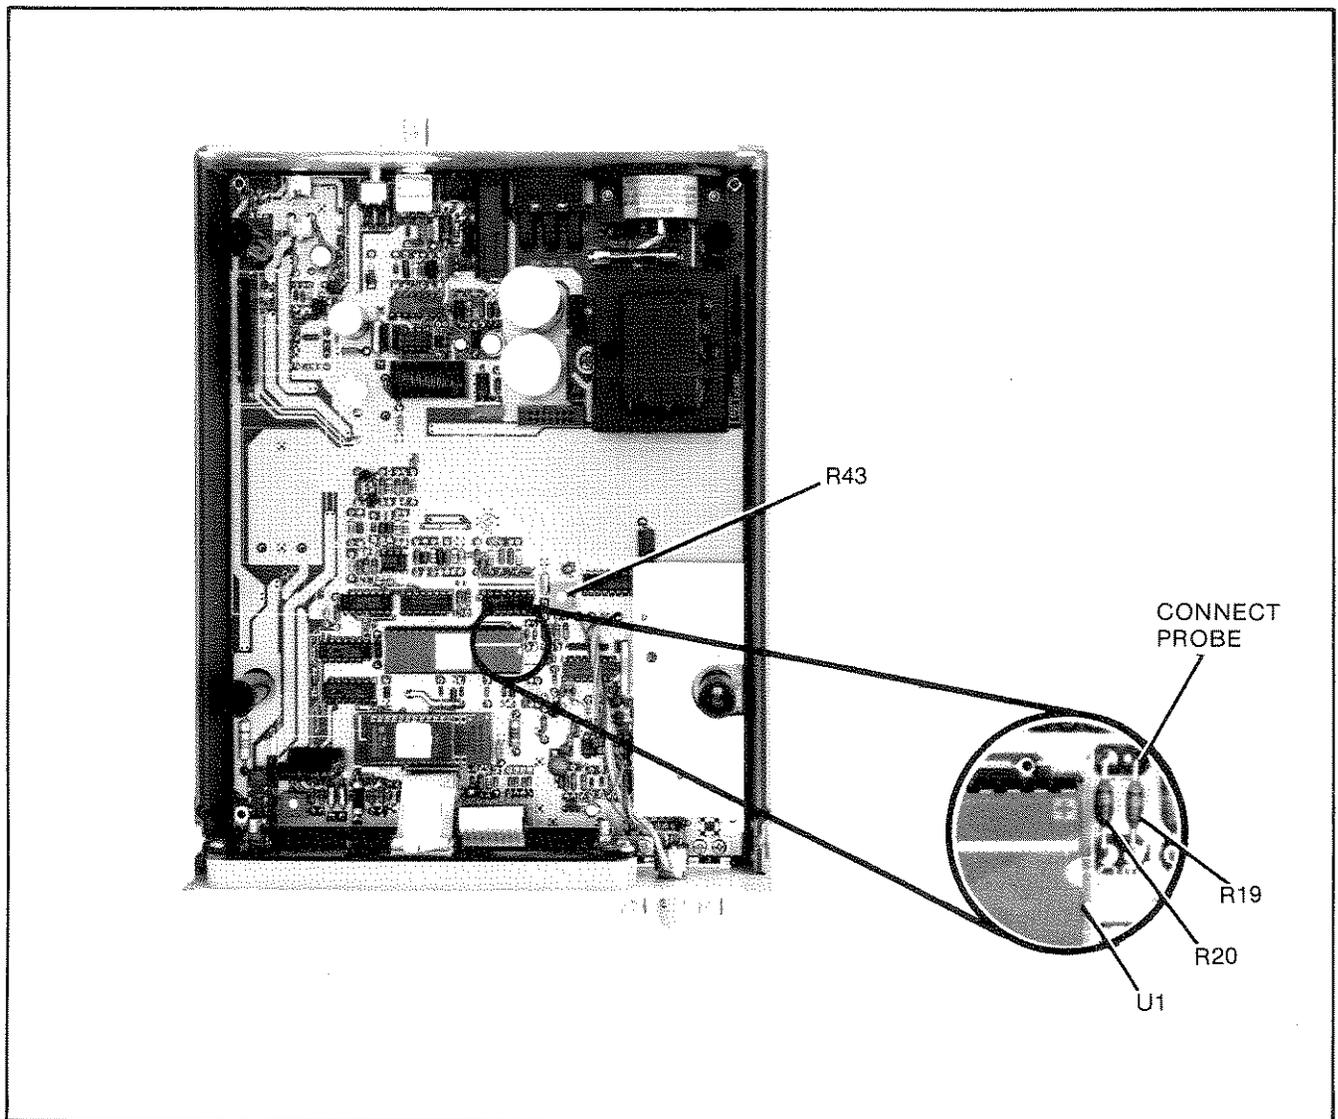

Figure 5-1. Assembly Adjustment Locator
- a. Remove the HP 5384A/HP 5385A top and bottom covers; locate variable resistor A1R43 as shown in *Figure 5-1*, Assembly Adjustment Locator.
e. Connect the scope probe at the junction of A1R19 and A1R65E. See *Figure 5-1* for probe connection point.